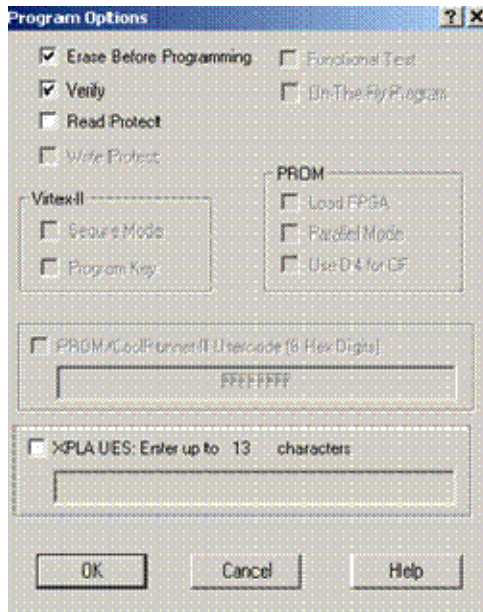

Figure 10: Program Options
8. Programming the CPLD; Click on the Xilinx chip to highlight it and go to **Operations, Program**. Choose **Erase Before Programming** and **Verify**. Click **Ok**. Refer to Figure 10.